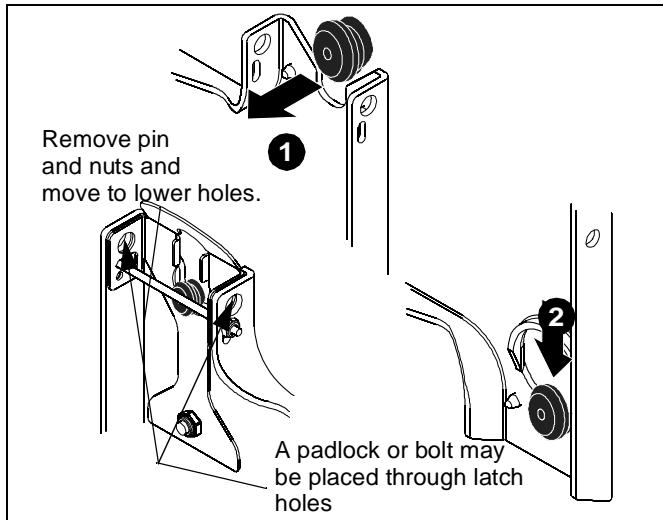

Figure 19
2. While supporting both sides of display, align four mounting buttons on display or interface bracket with four mounting holes in faceplate. (See figure 18) and (See figure 19)
3. Lower display into place listening for audible "click" to ensure recessed area of mounting buttons are properly seated in lower area of mounting holes and "click lock" mechanism has engaged. (See figure 18) and (See figure 19)
**NOTE:** Holes are provided in the faceplate for use with a padlock or similar locking device, if desired. In addition, the pin and nut may be removed from the upper holes and moved to the lower holes for use as a more permanent locking device. (See figure 19)